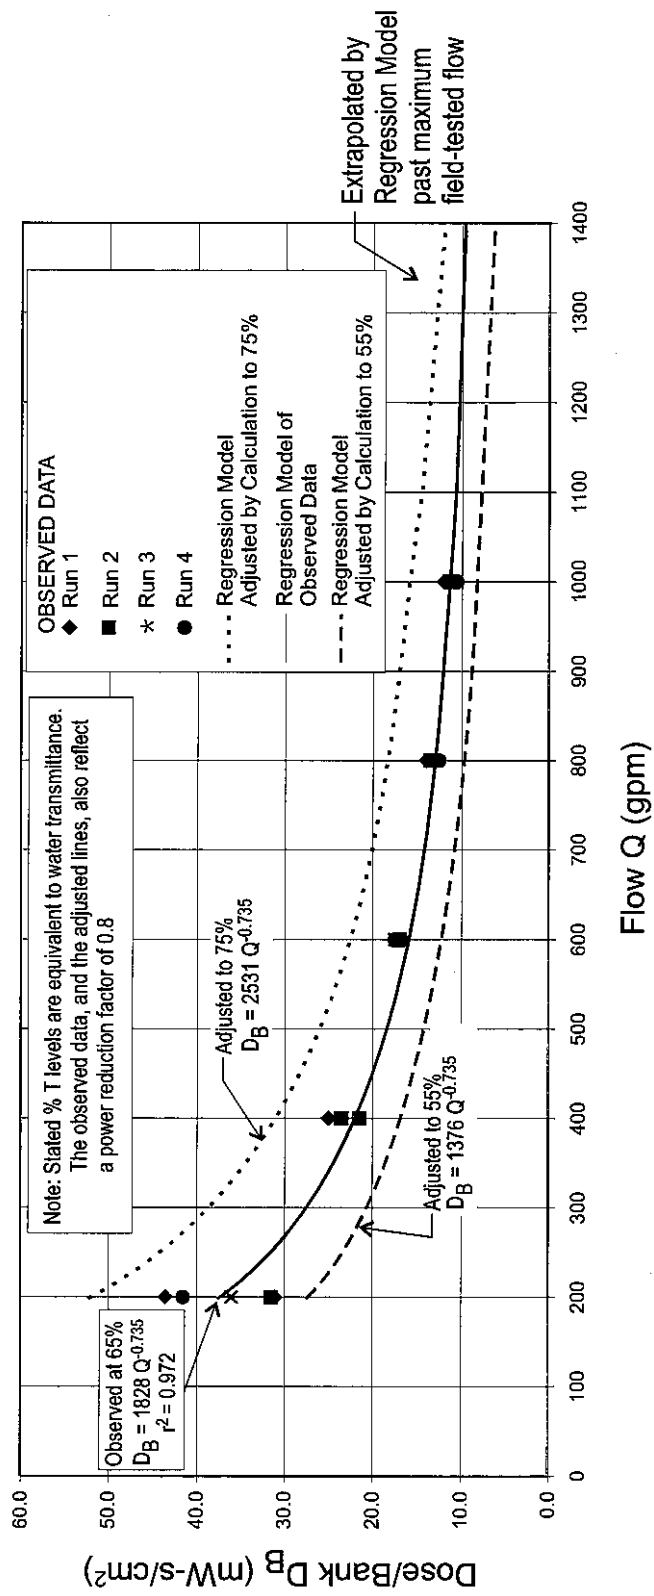

Figure 5. Flow-Dose Relationships for the Ondeo Degremont Aquarary HO10.
The bacteriophage and UV transmittance data for each field run are presented in Appendix D, Tables D1 through D4. The dose and flow data are presented on Figure 5. The flow-dose relationship determine for each HO10 module at a 65% transmittance and a 0.8 lamp output reduction factor is:
Expressions were also calculated for dose-flow relationships at 55% and 75% transmittance, and are shown on Figure 5. These curves were developed by adjusting the coefficient from the flow-dose relationship observed at 65% transmittance. This was done by multiplying the ratio of the calculated reactor intensity at either 55% or 75% to the calculated reactor intensity at 65% transmittance (see Figure 3) times the coefficient in Equation (3):